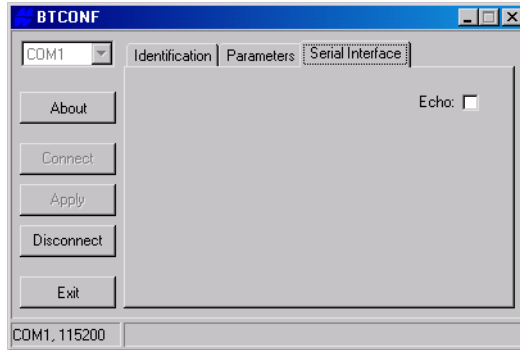

Figure 2-15. BTCONF Serial Interface Tab
8. Click the **Serial Interface** tab (Figure 2-15 on page 2-13). Enable Echo to display Bluetooth module replies and corresponding commands on the computer terminal. If needed, click **Apply**.